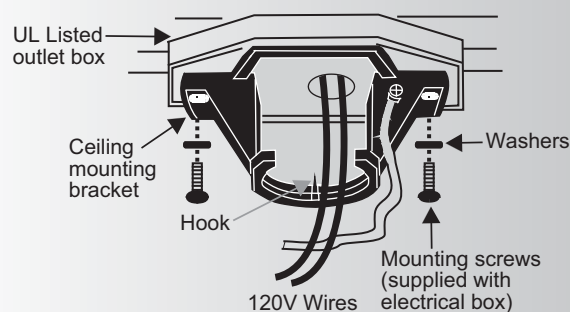

Fig. 6
Step 4. Pass the 120 volt supply wires from the ceiling outlet box through the center of the ceiling mounting bracket. (Fig. 6)
Step 5. Attach the ceiling mounting bracket to the outlet box using the screws and washers included with the outlet box. (Fig. 6)